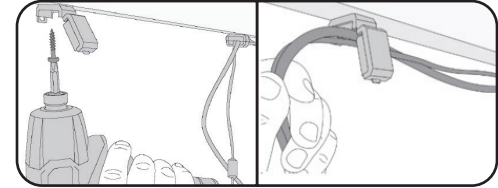

fig 4.4
7. Secure the cable management clip with a screw, place all wires into the clip, and securely close the clip. (fig 4.4)